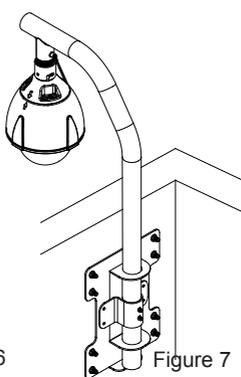

Figure 7
- (8) Rotate the tube clockwise until  $180^\circ$  with the secure plate, and then fasten the screws (Figure 7).